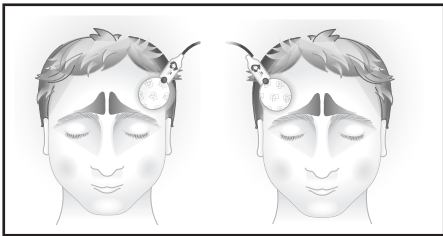

Figure 3-4: Apply the sensor to the patient's forehead
5. Position the sensor cable away from the patient's face and apply the sensor to the patient's forehead above the orbital ridge, on either side, avoiding the frontal sinus. (see Figure 3-4).